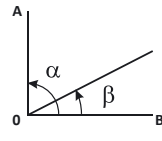

Figure 5
- c) Angle: Point the vertical line of the grid to the target A and take the angle reading α on the limb. Point to the target B and take the angle reading β on the limb. The angle between A and B will be $\alpha - \beta$ (Figure 5).